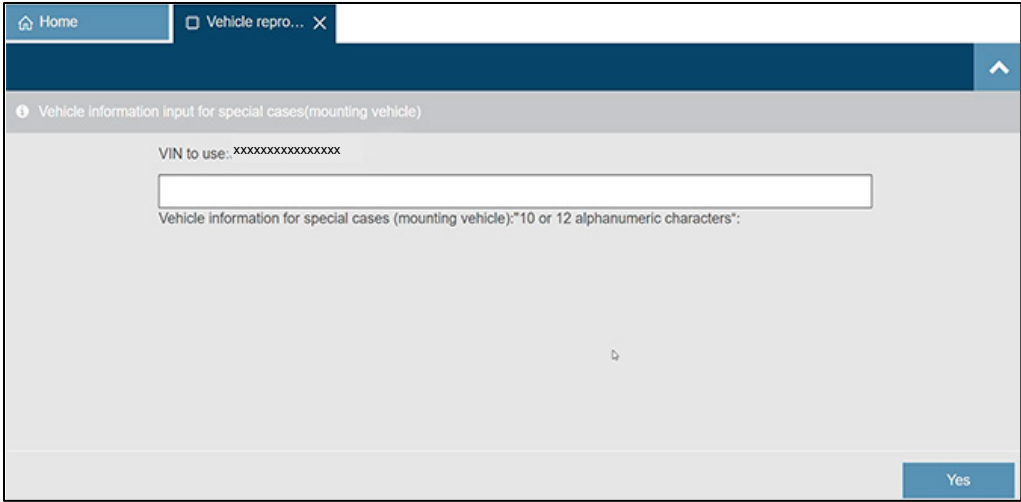

Figure 9
- 15. If the screen shown in Figure 9 is displayed, continue to step 16. If the screen shown in Figure 9 is NOT displayed, skip to step 17 on page 9.